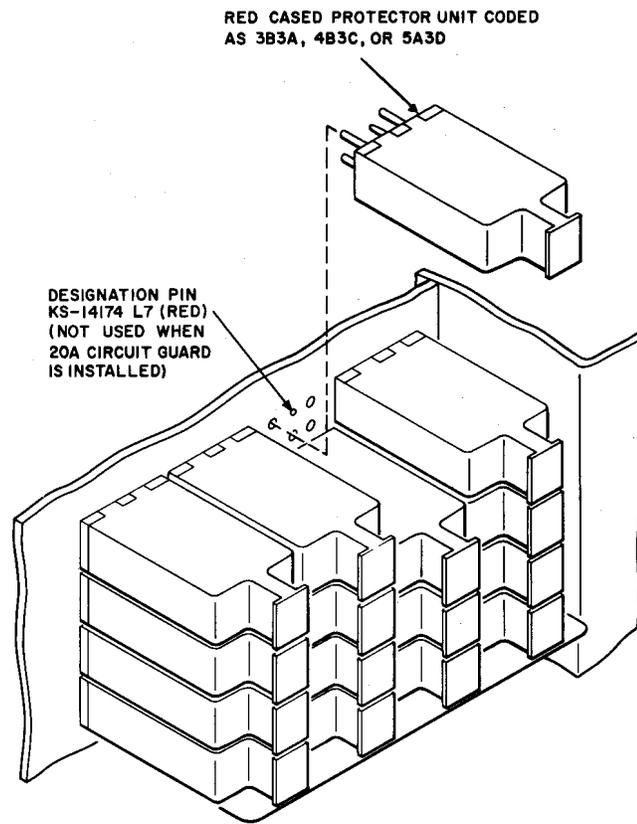

Fig. 8— Use of KS-14174 Designation Pin and Red Cased Protector for 302- and 308-Type Connector
4.02 On the 302- and 308-type connectors, whenever a jack is associated with a special service line, it is designated by a ***KS-14174, L7 designation pin*** (red) inserted into the hole provided for this purpose as shown in Fig. 8. A protector unit with a red housing is then inserted into the connector. Circuits, other than special service, are identified with various colored designation pins and protector unit housings of the same color. For regular service (standard circuit), no designation pin is used. Additional information on the KS-14174 designation pins and protector units is given in Section 201-208-100.